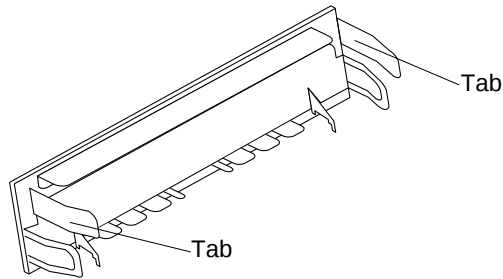

FIGURE 9-10 CD-ROM Drive Filler Panel
3. Remove the CD-ROM drive if installed (FIGURE 9-10).
- 4. Remove the filler panel as follows (FIGURE 9-10):**